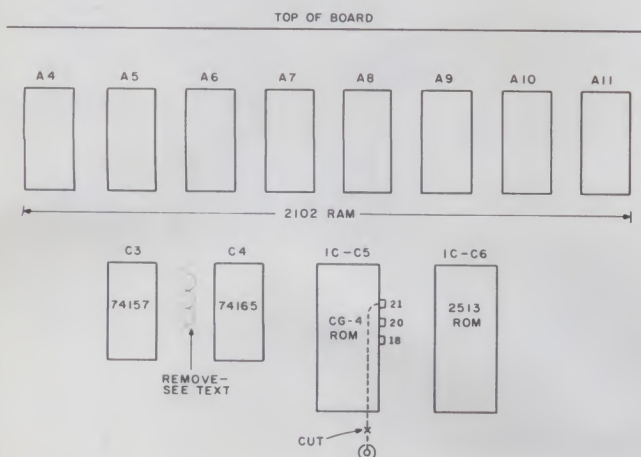

Fig. 1. Character generator component location.
2. At the spare 24-pin socket at C5, check for a ground on pin 20 and +5 V on pins 18 and 21 (see Fig. 1).
locations C3 and C4 (see Fig. 1).